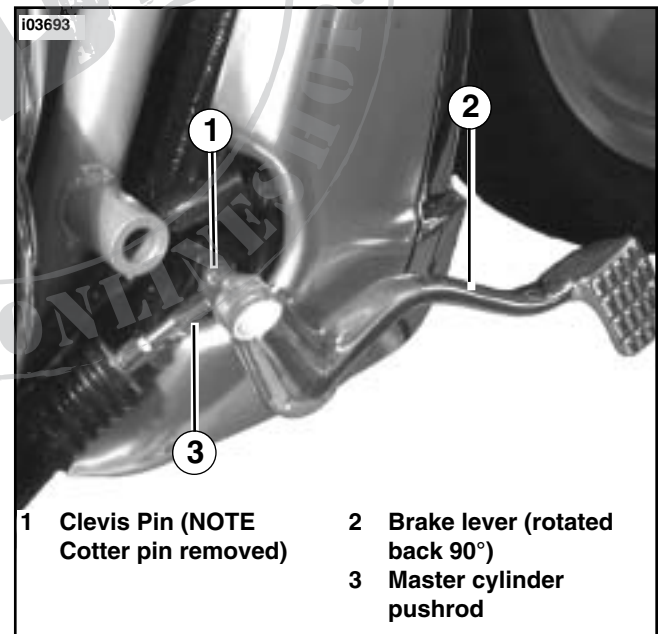

Figure 2. Remove Cotter Pin and Clevis Pin
See Figure 2. When performing the following step, it is much easier to remove cotter pin if you rotate brake lever back 90 degrees. This will provide much better access to cotter pin and clevis pin.
6. Orient brake lever as shown in Figure 2. and install clevis pin through brake lever and master cylinder pushrod. Tap clevis gently and make sure it installs so head is butted against brake lever. Install new cotter pin. Rotate brake lever 90 degrees back to riding position.